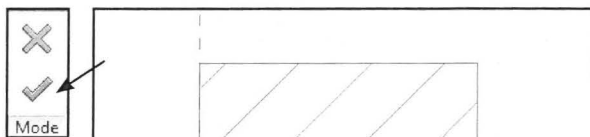

Fig. 15.87.
- Klik *Finish Edit Mode* (Fig. 15.87).